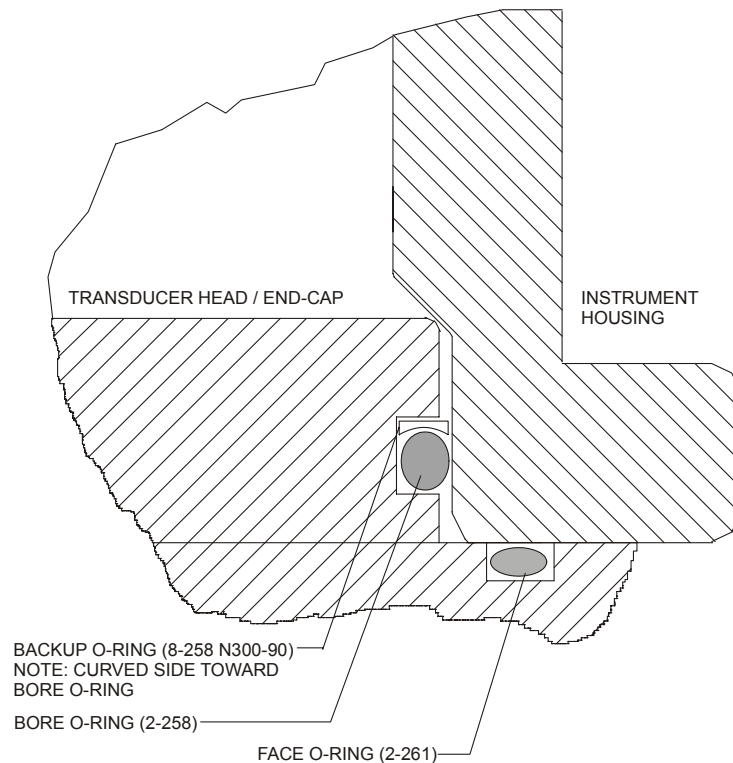

Figure 5. High Pressure O-Ring Detail View
- d. The backup O-ring (see Figure 5) is installed in addition to the 2-258 bore O-ring on the transducer head assembly for 2000, 3000, and 6000-meter high-pressure systems only. Install the backup O-ring with the cupped side facing the 2-258 bore seal O-ring.